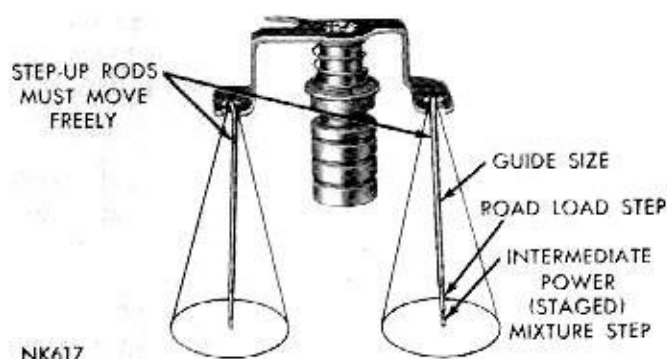

Fig. 9—Step-up Rods Free Play
(7) Before installing step-up piston, be sure step-up rods are able to move freely, each side of the vertical position, (Fig. 9). The step-up rods must be straight, smooth and free to move forward and backward from vertical.